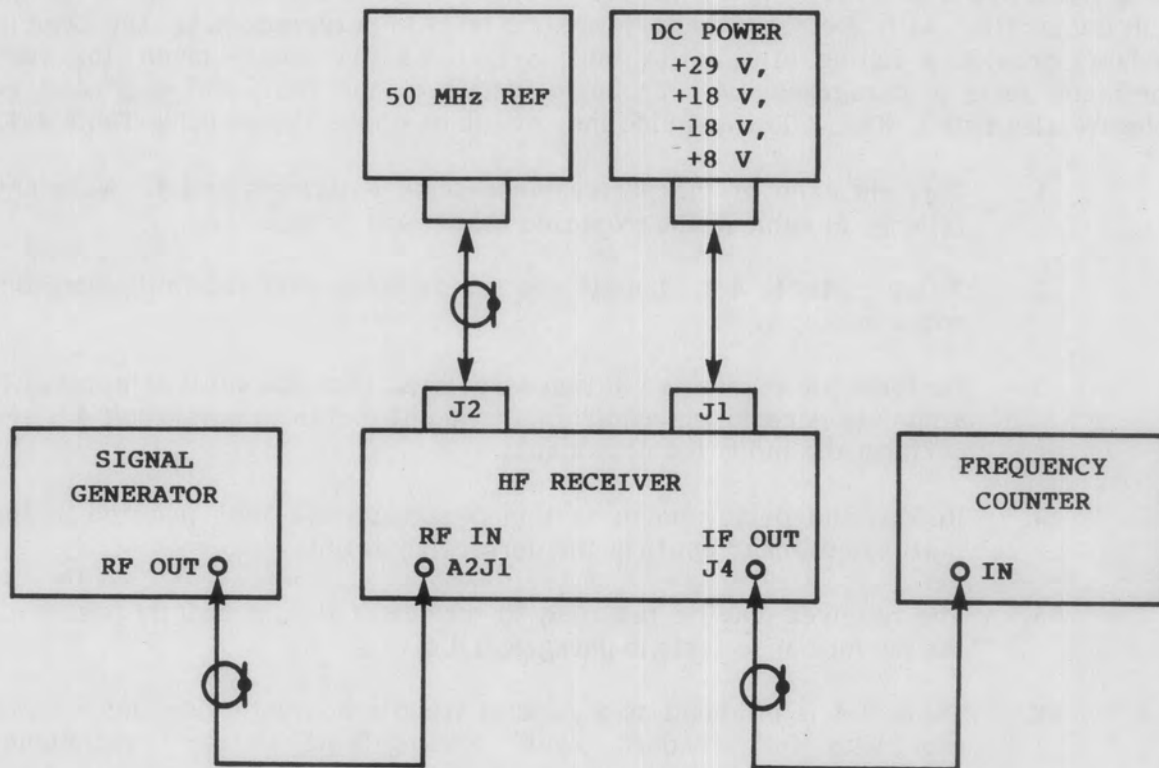

Figure 4-5. Frequency Tuning Accuracy Test Equipment Setup
1. Connect the receiver as shown in **Figure 4-5**.